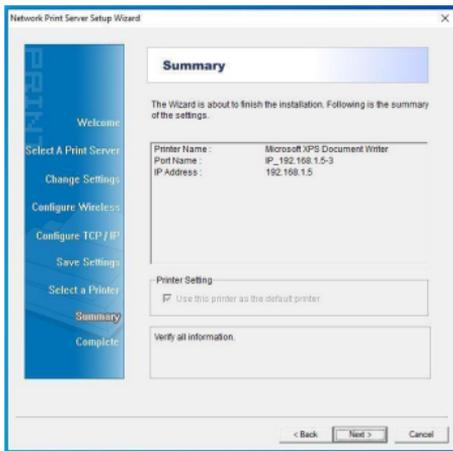

Figure 10
- At the **Confirm Settings** screen, check for any configuration errors. Select **Next**. (Figure 10)